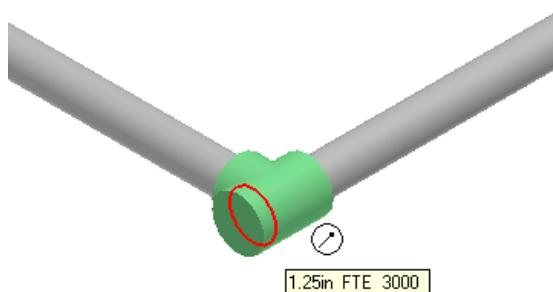

Figure 27: Selected Tee Port
27. Select the other Tee Port to start the conduit, as shown in the Figure 27.